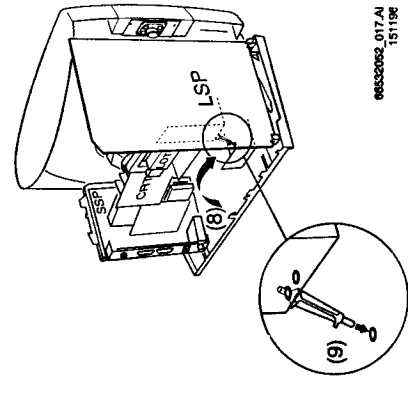

Figure 4.5
**SSP and LSP copper side without table/workbench (Figure 4.5)**
5. Put the LSP to the vertical position (Figure 4.5), copper side at the right hand, LOT above (8). For this position, special grooves are made in the bottom plate of the cabinet.
6. Fix the position of the LSP by putting the service pin between LSP (heat sink) and bottom plate (9). There are special holes in the heat sink and the bottom plate to put the service pin in.